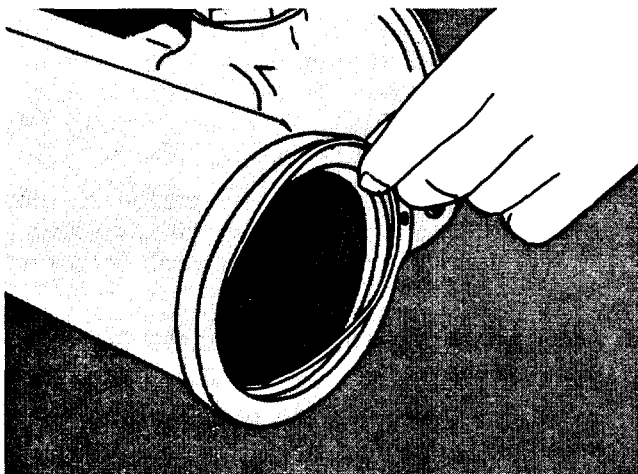

Fig. 7-31. Remove The O-Ring From The Filter End Of The Housing.
6. Remove and discard the O-ring from the filter end of the housing, Fig. 7-31.